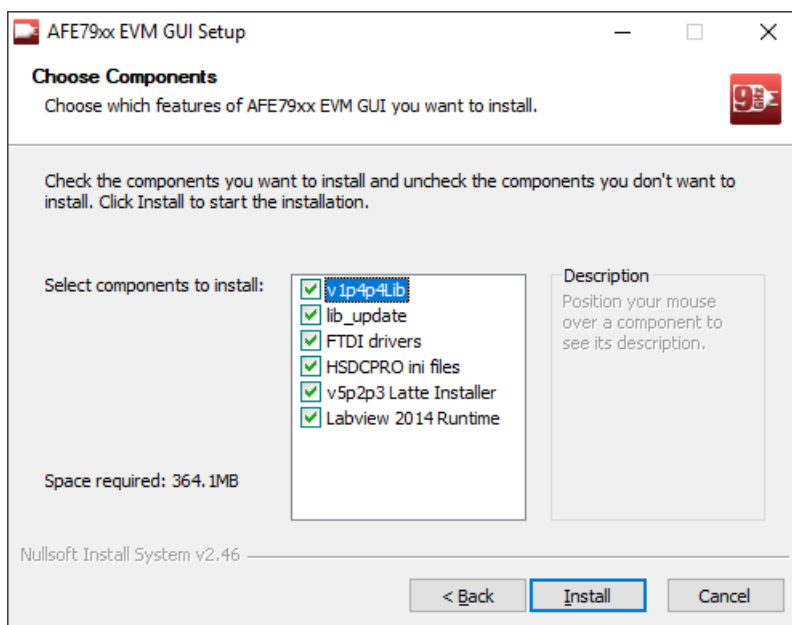

Figure 3-1. Latte Installer Options
2. Install AFE79xxEVM_GUI\xxxxxx.exe. Follow all the instructions within the installer execution process shown in Figure 3-1. The following applications are installed: